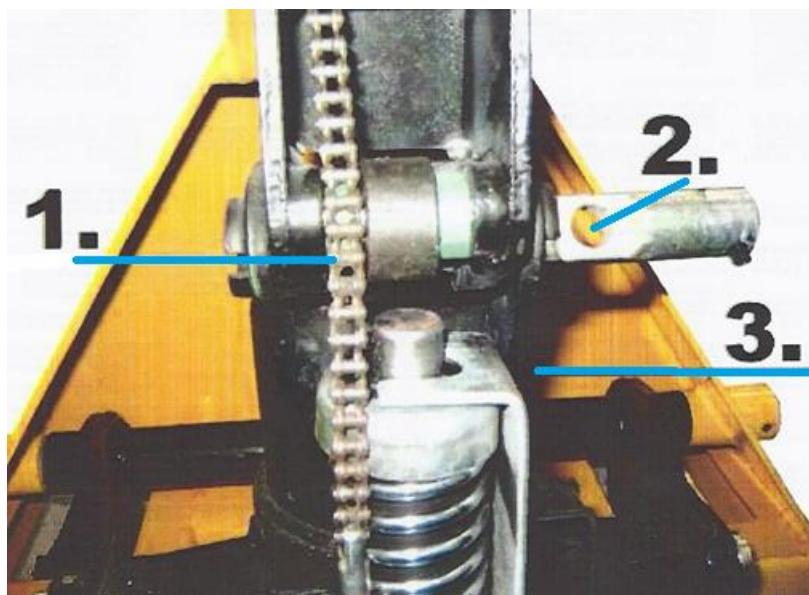

Fig. 1
Step 2: Pull the lever (51) to the lifting position (lowest position).
Step 3: Use the hammer tap the spring pin (23) in on one side of the Handle Axis, put some grease on one side of the spring pin. Now drive the Handle Axis through the hole in the Handle.
Step 4: Make sure the chain (1, fig.1) runs through the hole in the Handle Axis, as shown in figure 2. In order to make this work, first drive the Handle Axis through the Handle!
Step 5: Use the hammer to tap another spring pin (23) into the axle with the hole (46). Using a 3mm Punch to finish.
Step 7: Remove the Pump locker (3, fig.1)